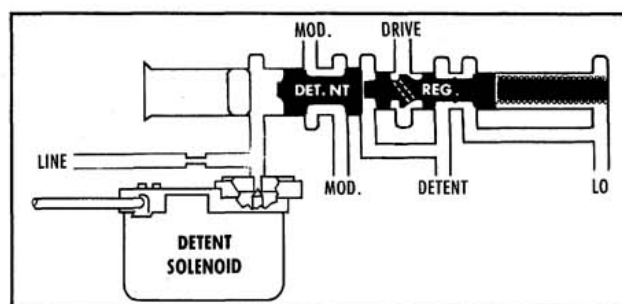

Fig. 6-11 Regulator Valve
**DETENT REGULATOR VALVE (Fig. 6-11)**